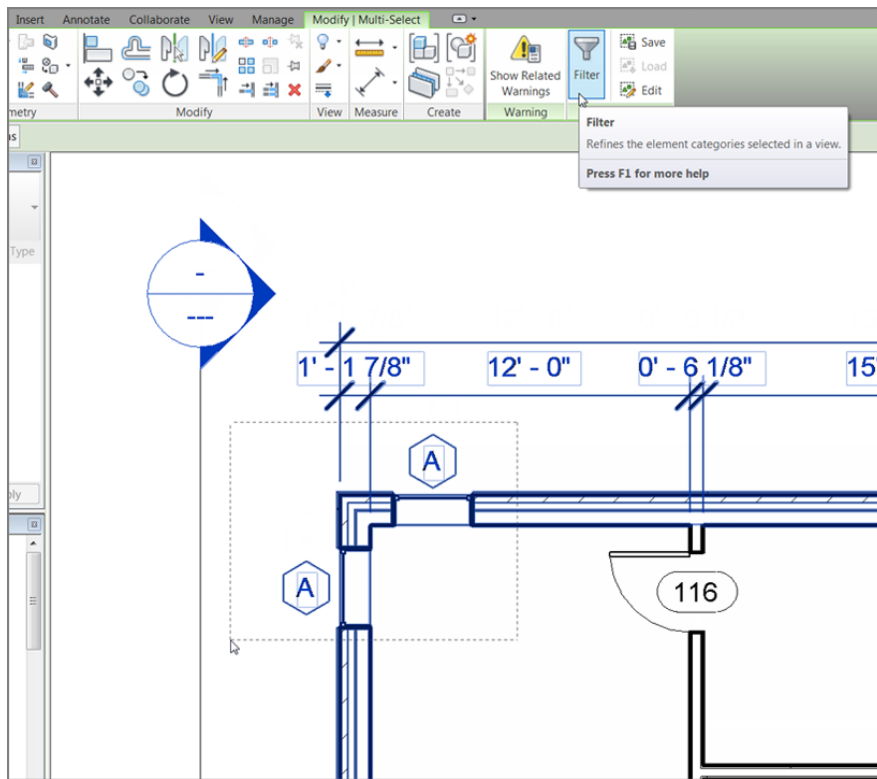

FIGURE 6.35: To select the slab, you'll find it easier to pick an entire area and filter the floor.
1. In the Project Browser, go to the Level 1 floor plan and then zoom in to an area of the east wing similar to the area shown in Figure 6.35.
2. Drag a right-to-left selection window around the corner of the building, as shown in Figure 6.35.
3. On the Modify | Multi-Select tab, click the Filter button (see Figure 6.35).